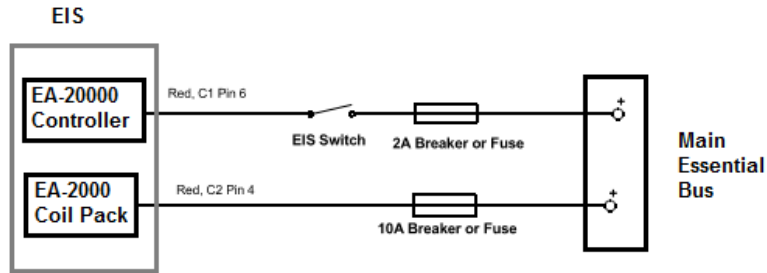

Figure 20: Single Engine, Single EIS Power Connection
- 1.) **Single EIS Installation:** Connect the panel mounted switch to a 2-amp breaker or fuse. Connect the 2-amp breaker or fuse to Essential Bus Bar. See Figure 20.
- 1.) **Single EIS installation:** Route the unterminated end of the Red wire from the harness through a 10-amp breaker (fuses may be used as an alternative to the breaker) to the Essential Bus Bar. Trim and terminate as required. See Figure 20.
- i. **Single EIS installation:** The connection for C2-Pin 4 and C1-Pin 6 should be to the main essential bus (through 10A and 2A breaker or fuses). Figure 20.